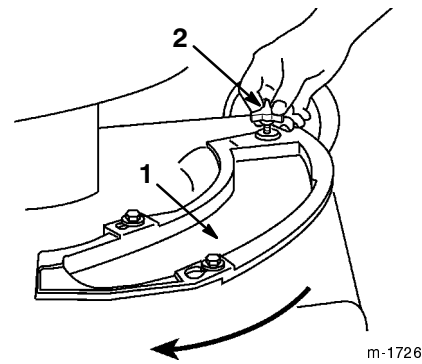

Figure 5
3. Remove the knob that fastens the cover plate to the housing (Fig. 5).